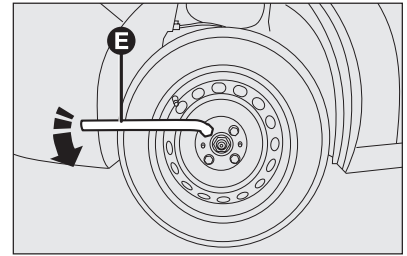

fig. 5
- loosen by about one turn the fastening bolts of the wheel to be replaced with the wrench provided **E-fig. 5**;